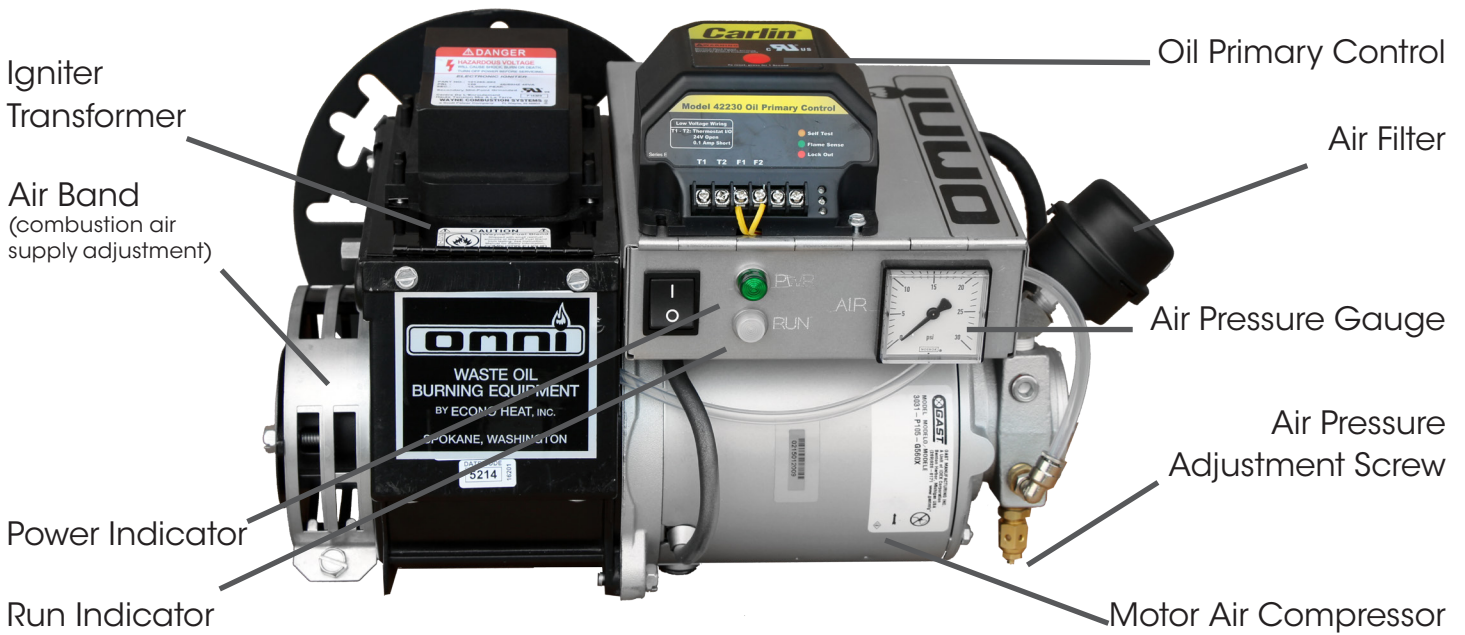
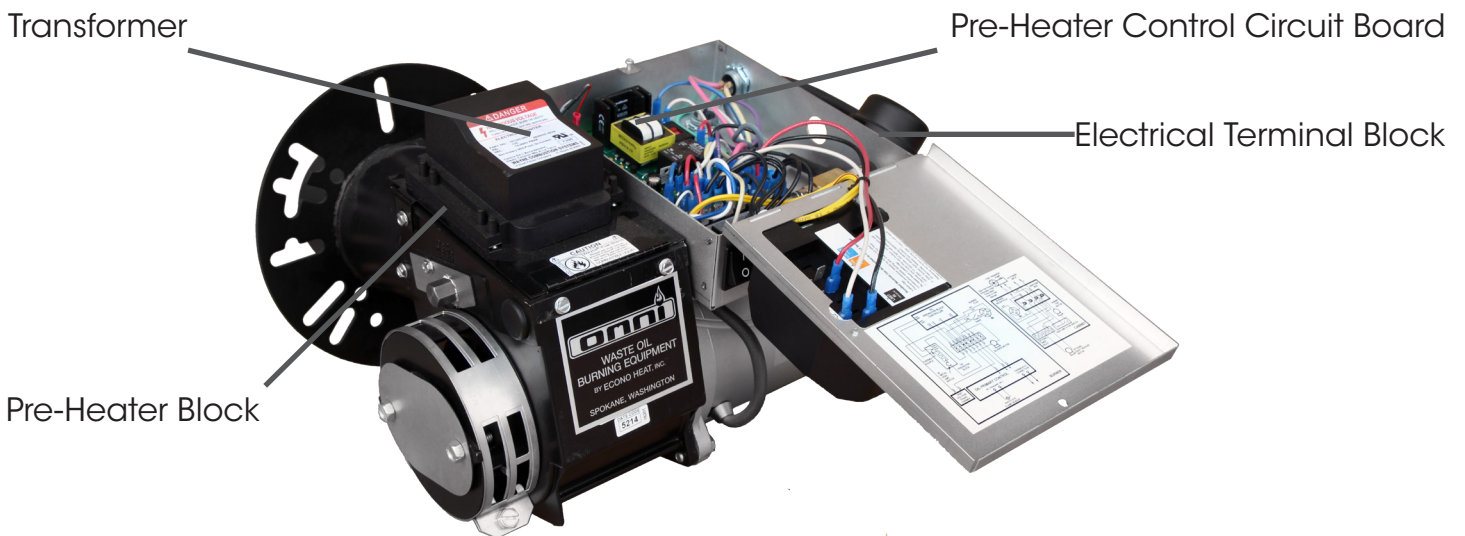
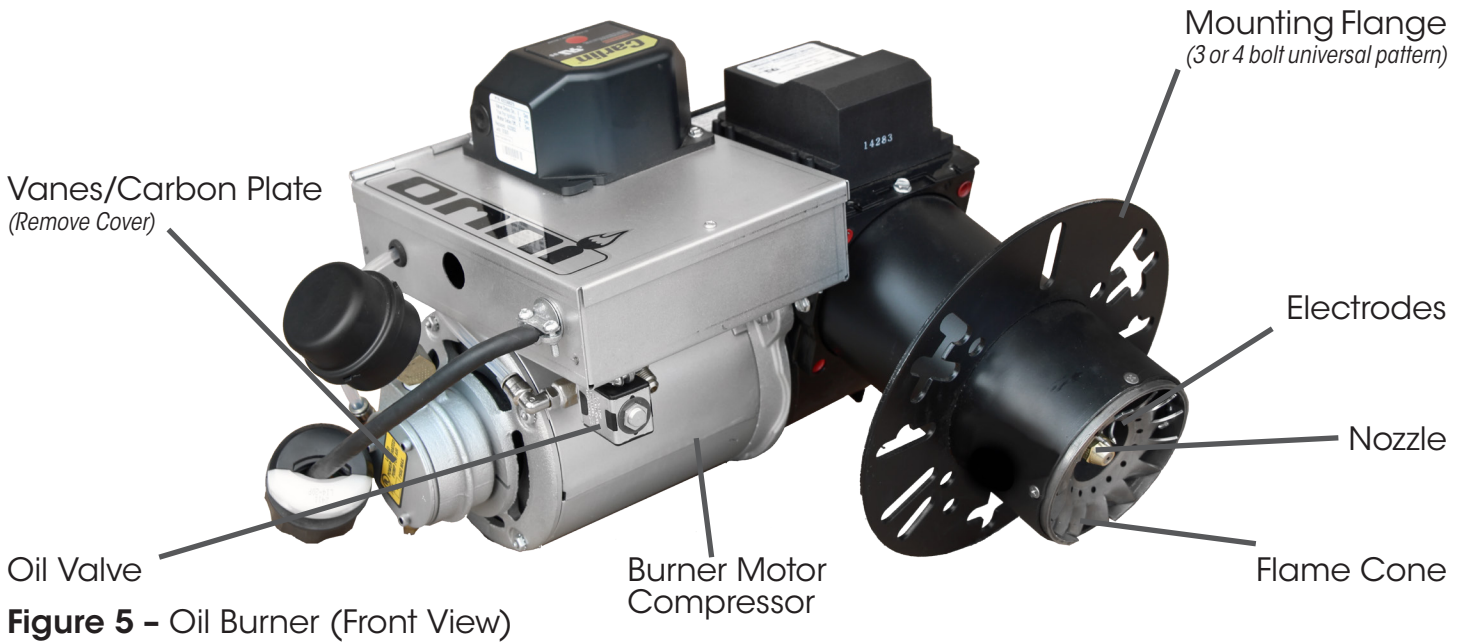

Figure 3 - Oil Burner (Back View Closed)
Figure 4 - Oil Burner (Back View Opened)
Figure 5 - Oil Burner (Front View)
3. Wire low voltage thermostat into "T" marked terminals on oil primary control on burner (Box on burner gun assembly with red reset button - figure 3).
OMNI's patented burner technology improves the efficiency of the oil burn process by continuous stabilization of the oil viscosity. Optimum atomization (spray) is accomplished by precisely pre-heating the oil and air prior to introduction to the combustion chamber. The waste oil enters into the Oil Pre-Heater Block (figure 4) and is pre-heated to operating thermo setpoint, then compressed air from the air compressor (figure 3) is mixed with the oil prior to spraying out the nozzle similar to fuel injection, by breaking up the oil droplets into a finer mist or spray (atomization). Electrodes mounted just above the nozzle (figure 5) provides continuous electrical arc across electrode to electrode igniting the fine oil mist as it sprays out of the nozzle. Once ignited the flame is forced into a swirl caused by the burners blower and specially designed flame cone (figure 5) providing a very efficient and thorough burn of the waste oil.
- **Igniter Transformer:** (figure 3) Supplies high voltage to the electrodes generating electrical arc igniting the oil.
- **Oil Valve:** (figure 5) energizes when burner is running and de-energizes when burner is not running eliminating bleed back of oil out of the Pre-heater block.
- **Air Band:** (figure 3) Adjusts amount of air introduced into the combustion chamber. Air band is adjusted at the factory for optimum performance, approx. $\frac{1}{2}$ to $\frac{3}{4}$ inch open. **NO FIELD ADJUSTMENT REQUIRED** unless in high altitudes application where minor adjustment may be required.
- **Oil Primary Control:** (figure 3) Controls the oil burner ignition. Checks for flame in the combustion chamber, if no flame is detected within 45 seconds, the oil primary will shutdown the oil burner. To restart the unit, reset the red button on the oil primary.
- **Oil Pre-Heater Block:** (figure 4) Pre-heats the oil and air before entering combustion chamber.
- **Photo Eye:** (figure 4) Senses flame in combustion chamber and signals oil primary when no flame is present.
- **Igniter Springs:** (figure 4) Transfers the high voltage from the igniter transformer to the electrodes (when door is closed)
- **Air Pressure Gauge:** (figure 3) Displays air pressure supplied by onboard air compressor.
- **Air Compressor:** (figure 3) Supplies air used within pre-heater block to aid in atomization of the oil.
- **Air Muffler/Filter:** (figure 3) Filters air and muffles the sound generated by the compressor.
- **Pre-Heater Control Circuit Board:** (figure 4) Precisely controls temperature of the Oil Pre-Heater Block and controls safety feature of not allowing burner to energize until oil has established operating thermo setpoint or shutdown burner if Pre-Heater Block temperature falls below shutdown thermo setpoint.
- **Electrodes:** (figure 4 and 5) Provides continuous high voltage electrical arc from electrode to electrode igniting the waste oil as it is being sprayed out of the nozzle.
- **Nozzle:** (figure 5) Low-pressure nozzle for oil spray pattern.
- **Flame Cone:** (figure 5) Specially engineered flame cone forces the flame into a swirl pattern improving the burn thoroughness.
- **Burner Motor:** (figure 5) Multitask motor turns the burner blower and integrated air compressor.
- **Air Pressure Adjuster:** (figure 3) Adjusts the air pressure going to the pre-heater block. Should be adjusted between 12 PSI and 13PSI as indicated on the Air Pressure Gauge on the burner for thorough burn of the waste oil. **Note: In order to insure proper air adjustment, air gauge must read 0 when burner is cycled off or powered down.**
- **Power Indicator:** (figure 3) Indicates when power is present at the burner.
- **Run Indicator:** (figure 3) Indicates that the burner is ready for operation after the initial pre-heat time of approx. 5 minutes from initial power up.
4. Making sure the thermostat is turned off, apply power to the burner. Switch burner main power switch to ON position. After allowing the oil pre-heater time to establish temperature setpoint, approximately 5 minutes. Jump the "T" terminals on the Oil Primary Control (figure 3). Once the burner is running, temporarily jump the "F" terminals on the Oil Primary. This will allow the burner to run during the pump priming process.
7. Combustion air band (figure 3) should be open approximately 1/2" or until flame is clear yellow, not orange. Opening the air band too far may cause delayed in starting or even prevent the flame from starting.
- Open the burner side clean-out door to access and clean flame cone (figure 5 above, and figure 8 below).
- Replace nozzle every 3-5 years depending on usage (figure 5 above, and figures 9, 10 and 11 below). Will lose efficiency due to erosion. This can be accessed by swinging the burner clean out door open (figure 8 below).
Electrodes are adjusted at time of manufacture. However, they should be check periodically and at time of installation, to be sure they are set as noted in the following dimensional drawing. Swing burner clean out door back for inspection (figure 5 above, and figures 10 and 11 below). **CAUTION: TURN OFF MAIN ELECTRIC SUPPLY SWITCH BEFORE CHECKING OR ADJUSTING ELECTRODE SETTING.**